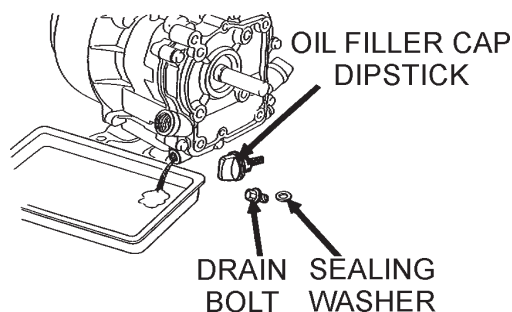

Figure 33. Engine Oil (Draining)
- Drain the engine oil when the oil is **warm** as shown in Figure 33.